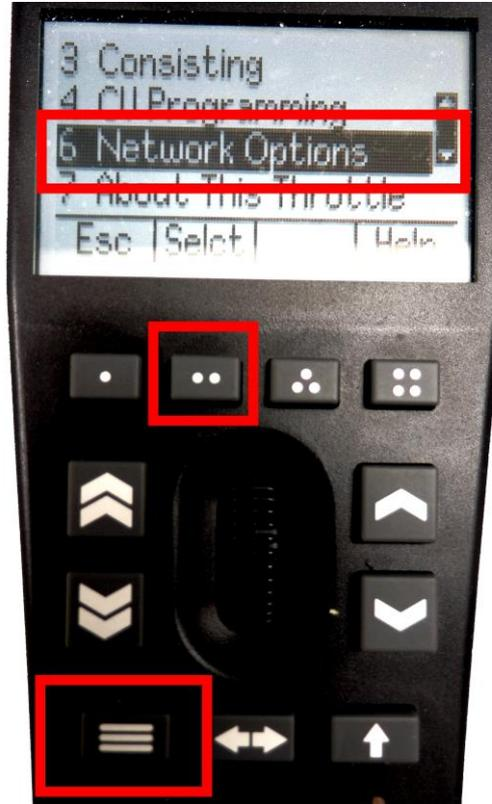

Figure 21 Selecting the Network Options menu on the UWT-100
- (2) Press the Menu button on your UWT, then use the up/down chevron buttons to choose Network Options, then press the Selct button [.] to open the Network menu as in Figure 21.